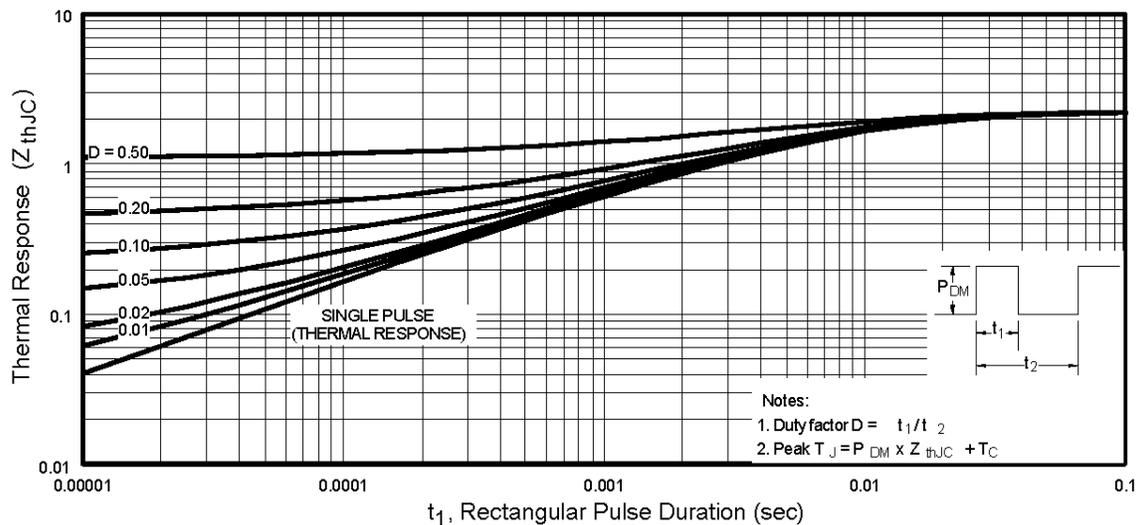

Fig 11. Maximum Effective Transient Thermal Impedance, Junction-to-Case
① Repetitive rating; pulse width limited by max. junction temperature. (See fig. 11)
② Starting T_J = 25°C, L = 3.2mH